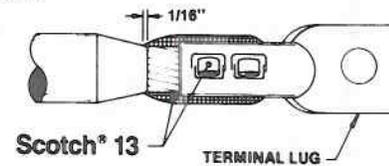

FIGURE 5
1. Fill indents in lug. See Figure 5.
2. Wrap two half-lapped layers of 13 Tape over lug. See Figure 5.